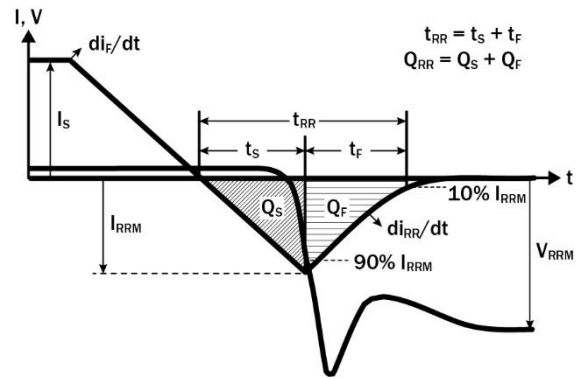

Figure 17. Diode Recovery Waveform
- a. Dynamic on-resistance; see Figures 17 and 18 for test circuit and conditions